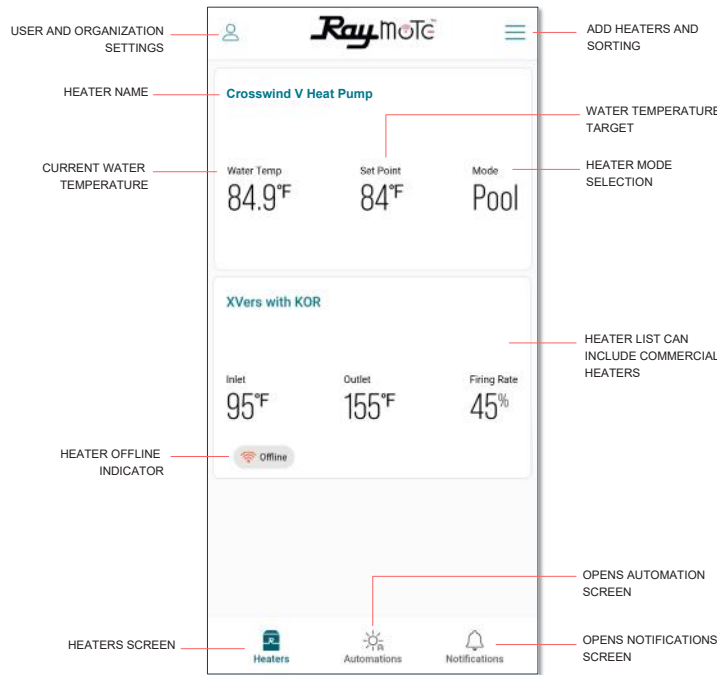

Figure 86. Main View - Heaters List
- Raymote organization list can handle 1 or multiple Commercial and Residential Raypak heaters equipped with Raymote. See Figure 86.